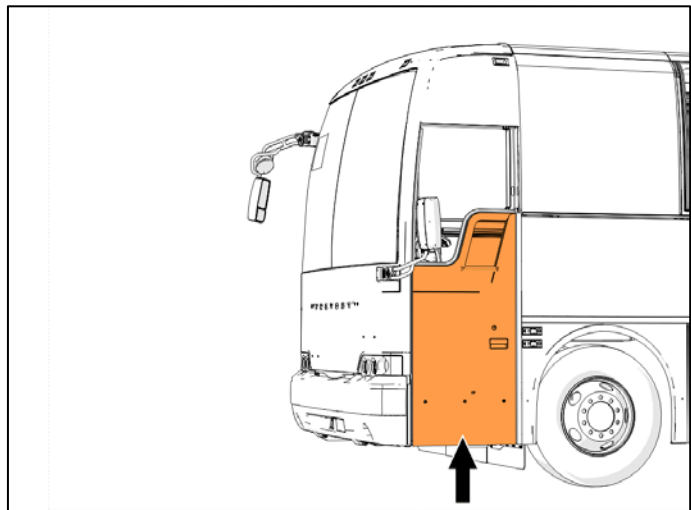

Figure 1
2. Locate and open the Front Service Compartment Door. (Figure 1)